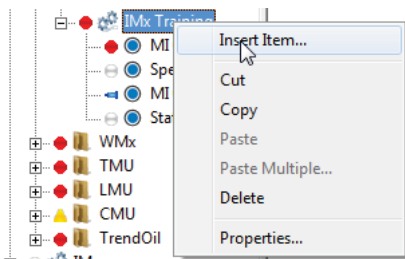

Fig. 4. Select Insert Item from a machine.
- Right-click on a machine and choose **Insert Item** (→ fig. 4).